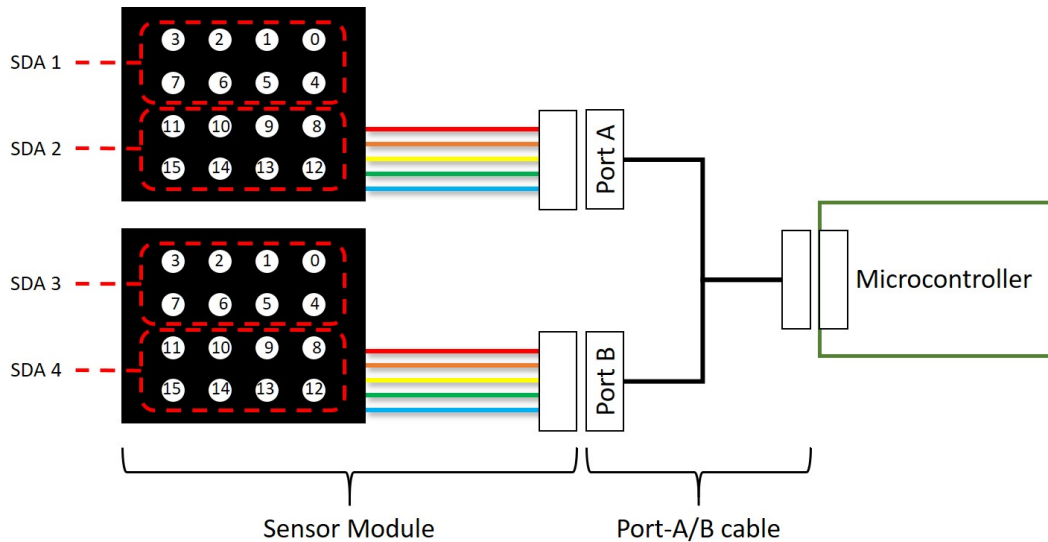

Figure 1: The connection between Sensor Module, Port-A/B cable, the microcontroller, and their respective SDA numbers and taxel numbers.
Each Sensor Module has 16 sensing points (taxels) in total. Each taxel measures 3-axis skin deformation. The sampling rate is 250 Hz. Each measurement has 16-bit (8 Most Significant Bit/ MSB and 8 Least Significant Bit/ LSB) resolution per axis. Please see Figure.1 for the taxels' number and their position.
- "SDA number - 1" is defined from whether Port A or Port B of the Port-A/B cable that the Sensor Module is connected to. If a Sensor Module is connected to Port A, the SDA number will be 1 and 2 depending on the taxel. See Figure 1 for more detail.